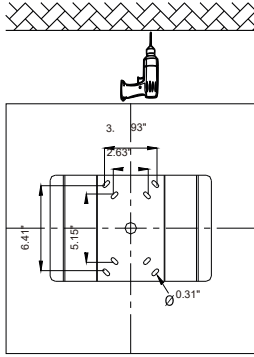

Figure8
► Installation Method III (2):
1. Drill the alignment holes on the top ceiling, make them match to the holes on mounting bracket. (Figure 8)